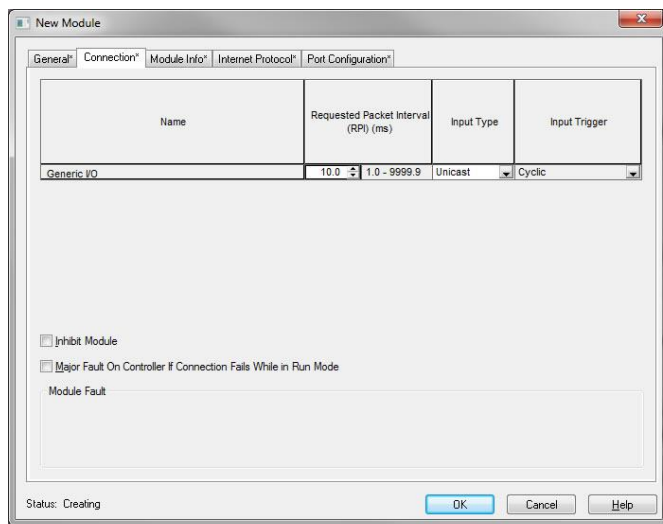

Figure 21: AOP New Module Properties Connection Tab
13) Click on the “Connection” tab. Refer to Figure 21.